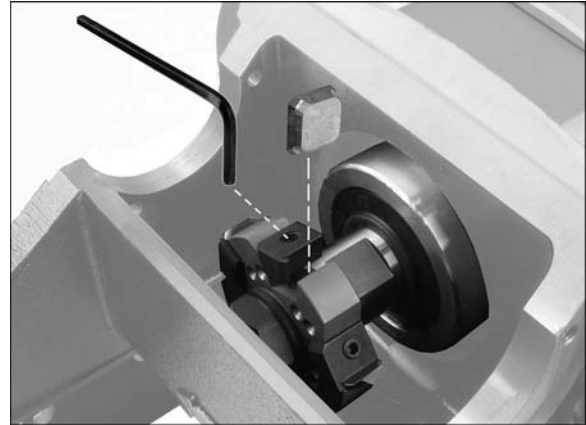

Figure 9-1: blade insert rotation/replacement
3. Loosen set screw (Figure 9-1) with 2.5 mm hex wrench, until blade insert can be removed.